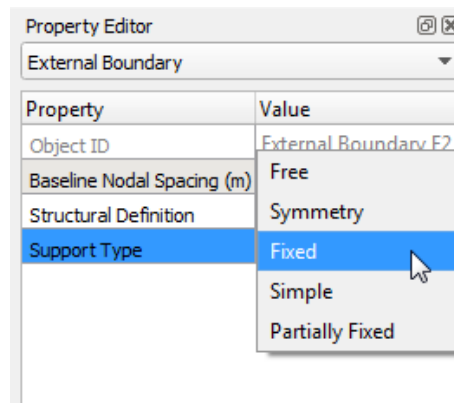

Figure 16.2: Boundary conditions in the **Property Editor**
- Click the field next to the **Support Type**. A drop-down menu will be shown (Figure 16.2).